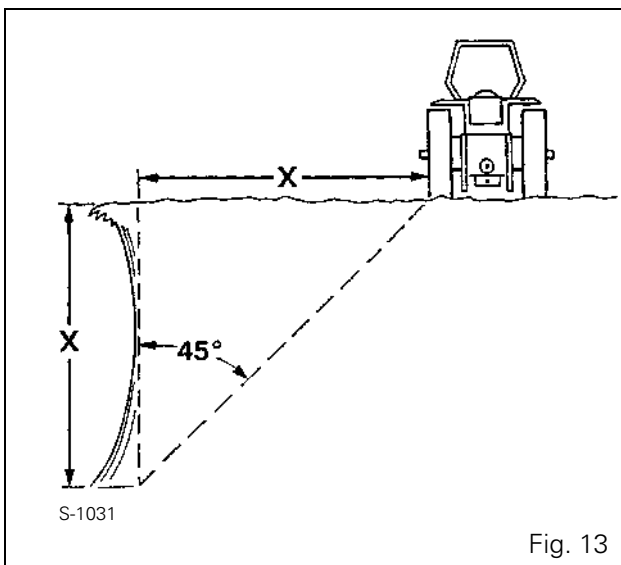

Fig. 13
Fig. 13: Do not operate near the edge of ditches or banks. The distance from the edge should always be equal to or greater than the height of the bank, to prevent it from collapsing.
- Avoid steep slopes whenever possible. If this is not possible, avoid holes and dips when driving downhill. Avoid stumps, stones, bumps and raised areas when driving uphill. Keep the tractor behind the shear line when working close to ditches or banks. (Fig. 13). Avoid ditches, banks and riversides which might give way.